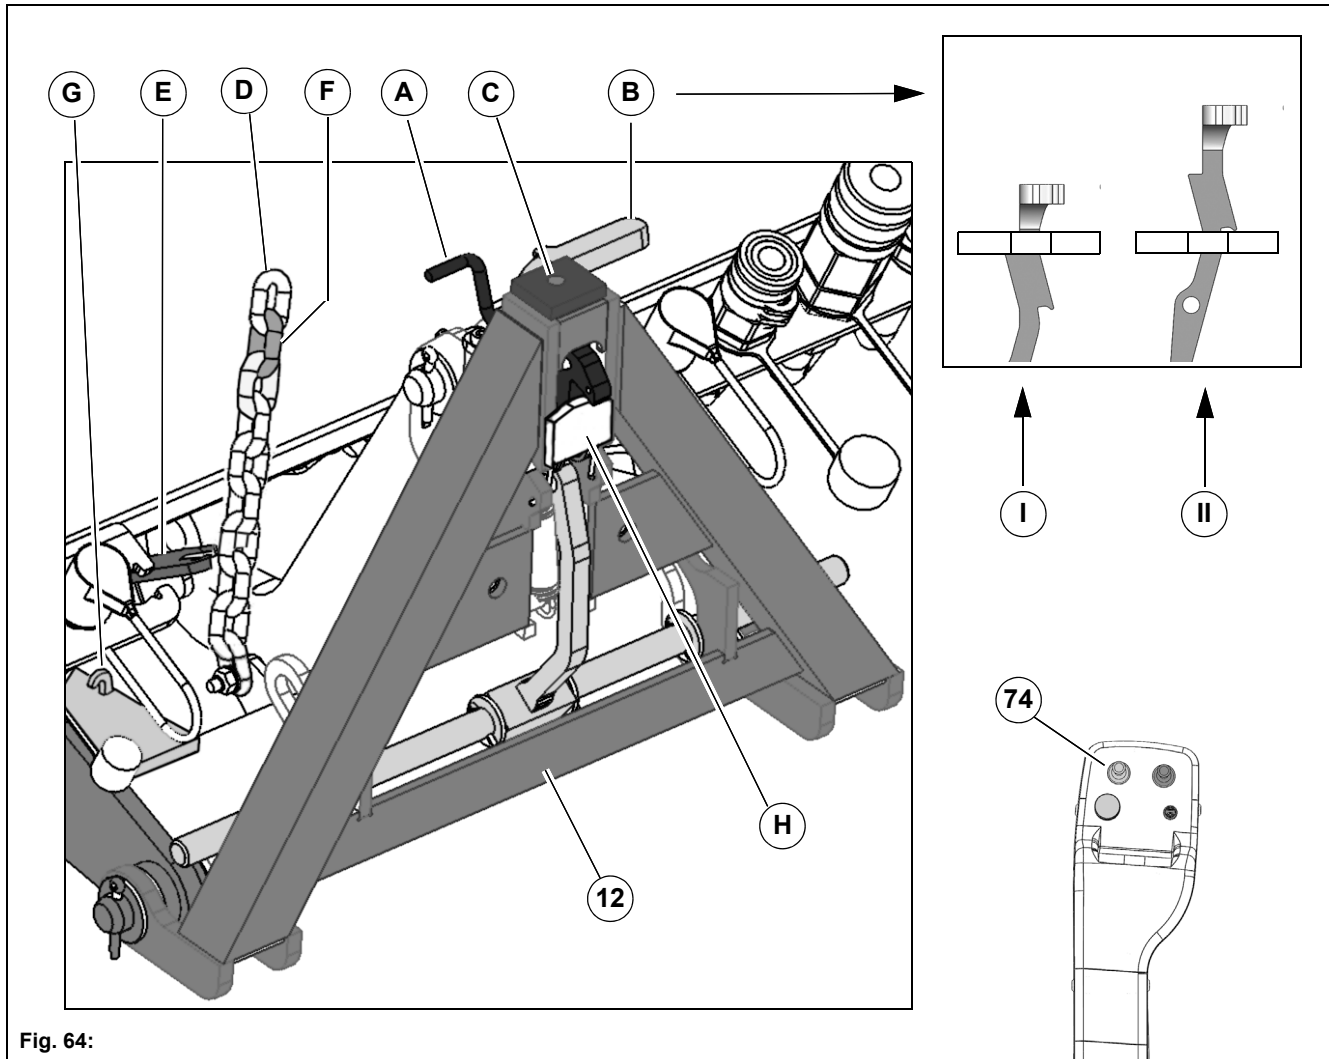

Fig. 64:
1. Bring the locking hook **Fig. 64-A** into the front position and the lever **Fig. 64-B** into the lower position **(I)**.
- For vacuum sweeping, hook the chain **Fig. 64-D** onto the holder **Fig. 64-E**. Observe the hooking point **Fig. 64-F!**
- For attachments with floating position, the chain must be hooked onto the hook **Fig. 64-G!** (parking position)!
3. Check the locking plate **Fig. 64-H** on the attachment. If necessary, loosen the screws and shift the locking plate.